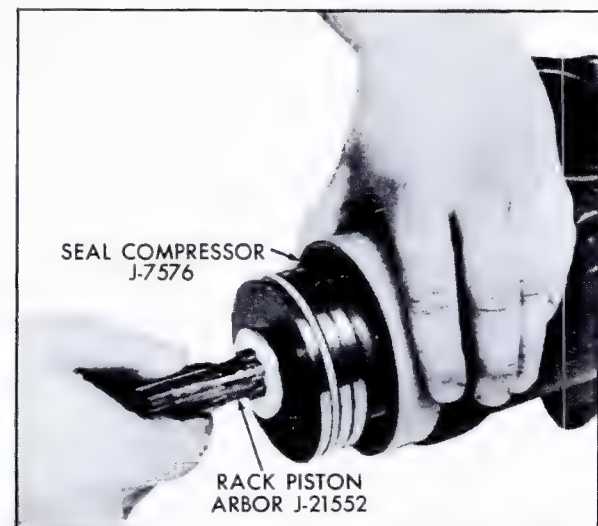

Fig. 9-34 Installing Rack Piston Compressor
9. Install Rack-Piston Seal Compressor, J-7576, in gear housing, Fig. 9-34, holding it tightly against shoulder in housing.